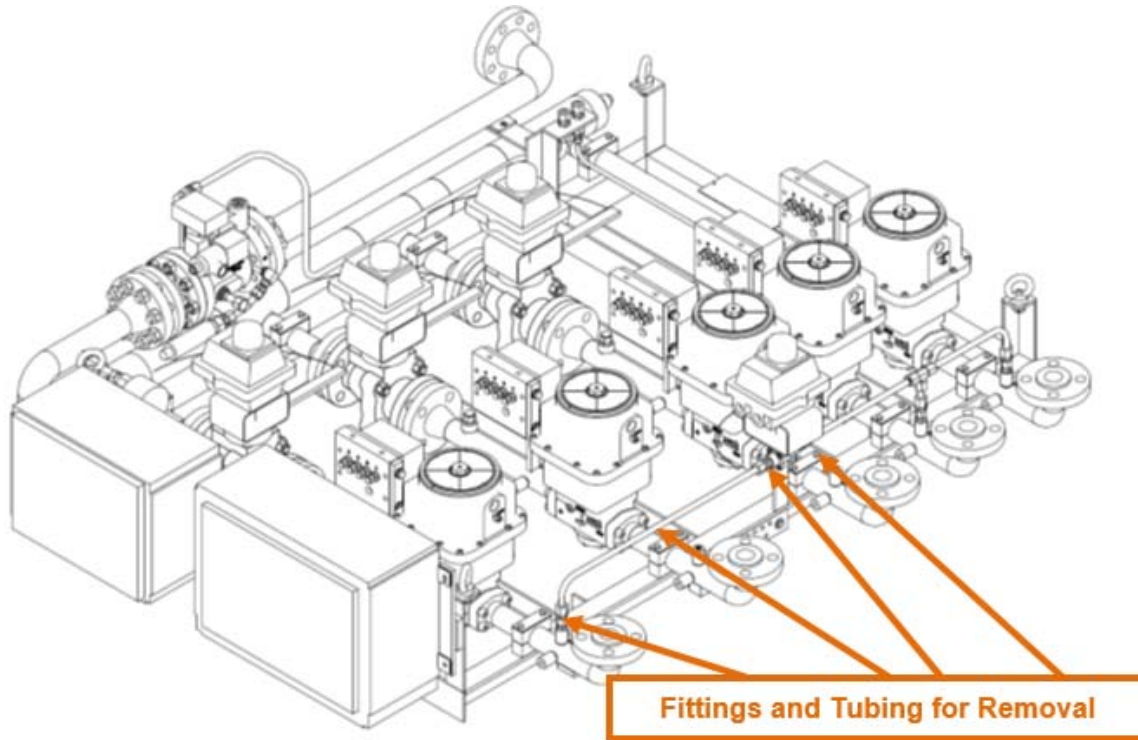

Figure 2-5. Balancing Line Isolation Valve Tubing and Fittings
2. Disconnect the compression fitting on the GMV-0 discharge-piping spool and remove the section of the balancing line, see Figure 2-5 below. Set the section of the balancing line in a safe location to prevent damage.